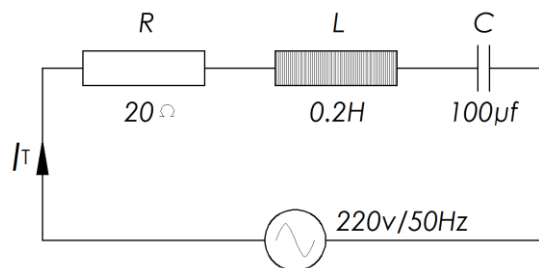

Figure 1.38
3. Consider **Figure 1.38** and, using complex numbers, calculate the following: